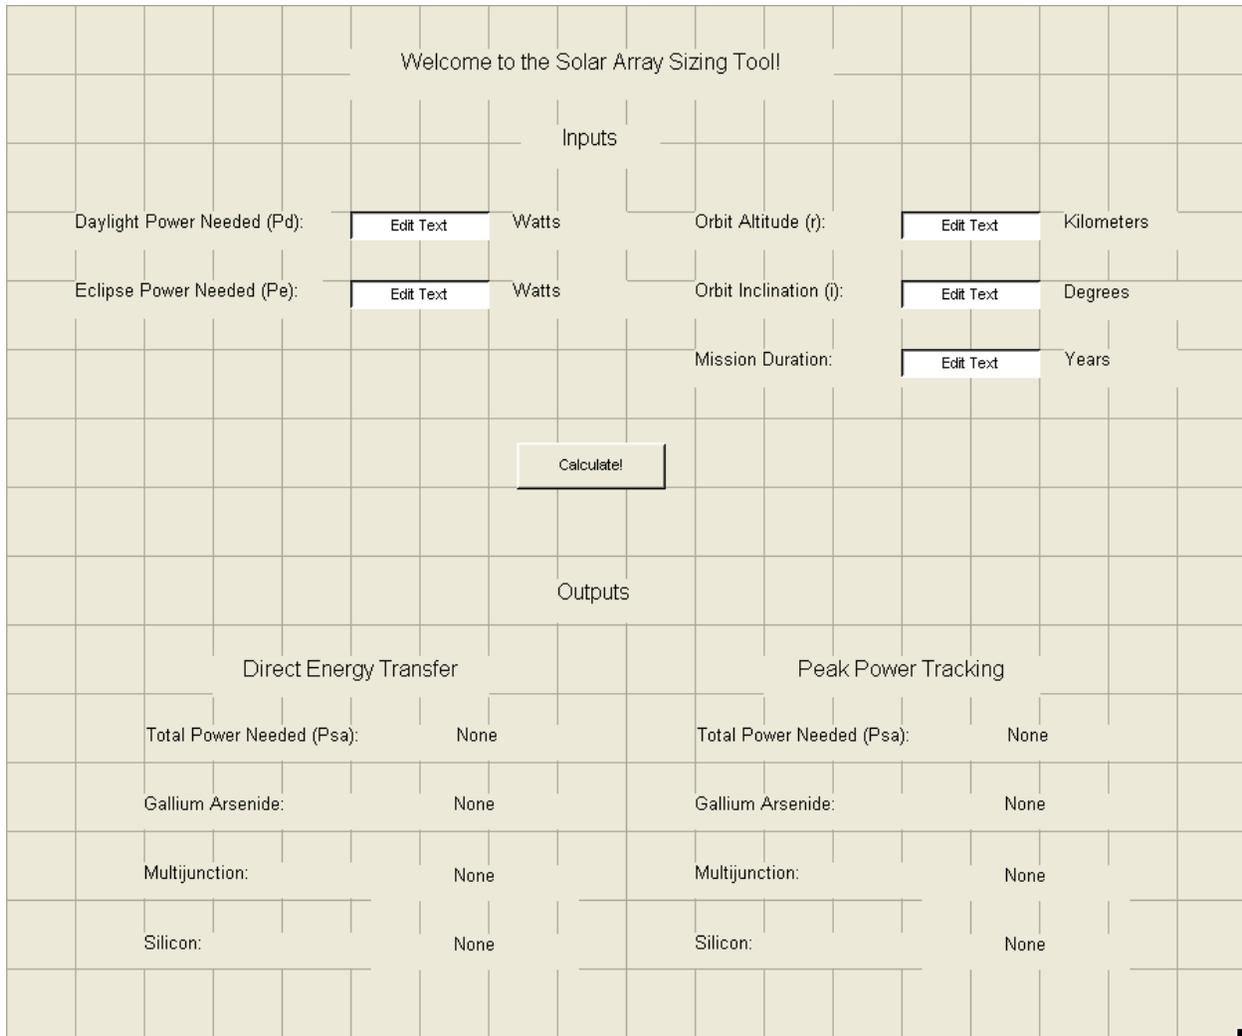

Figure 2. Graphical User Interface
The parameters are entered into Matlab through a GUI as shown in Figure 2. The output fields are dynamically updated to reflect the entries input by the users.
- b. Running the Program: The SolarArraySize is run from the Matlab command prompt by entering the command *SolarArraySize*. This opens the GUI window, and you will have access to the solar array sizing program as shown in Figure 2.